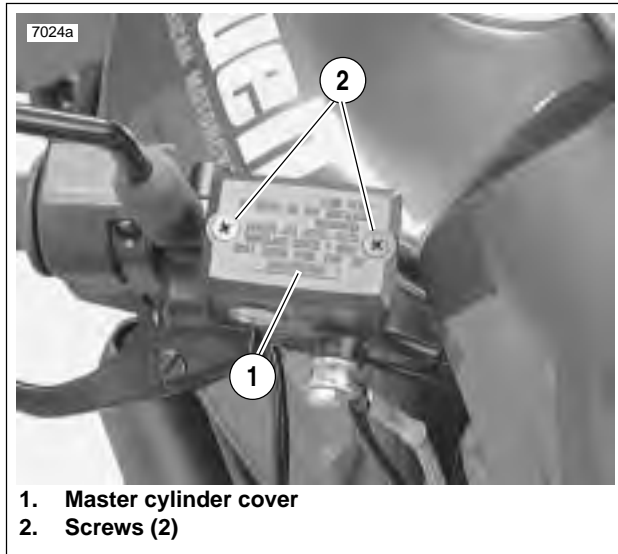

Figure 2-43. Master Cylinder Cover
6. See Figure 2-43. Remove both master cylinder cover screws (2). Remove master cylinder cover (1) and gasket.
9. See Figure 2-43. Install master cylinder cover (1) and cover gasket with two screws (2). Tighten to 9-13 **in-lbs** (1.0-1.5 Nm).